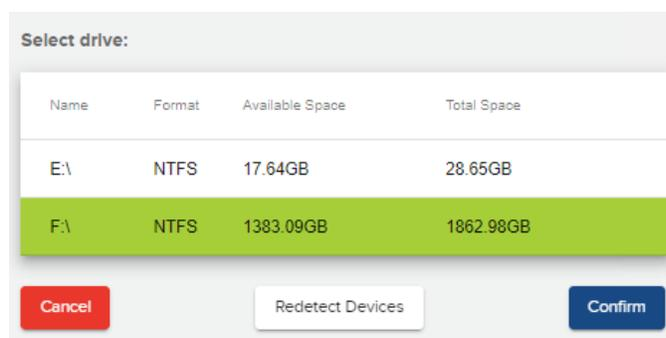

Figure 73: Selecting external drive
4. View available external drives (NTFS or exFAT format). Consider available space on any drives present and the estimated size of the export (Figure 73). Select a drive to which to export and click **Confirm**.